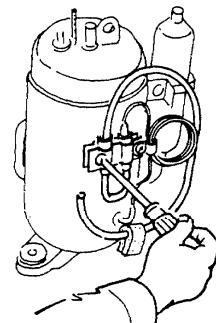

Fig. D-16
- 3) 1) Take off the 2 screws to remove the capillary tube from the compressor. Fig. D-16